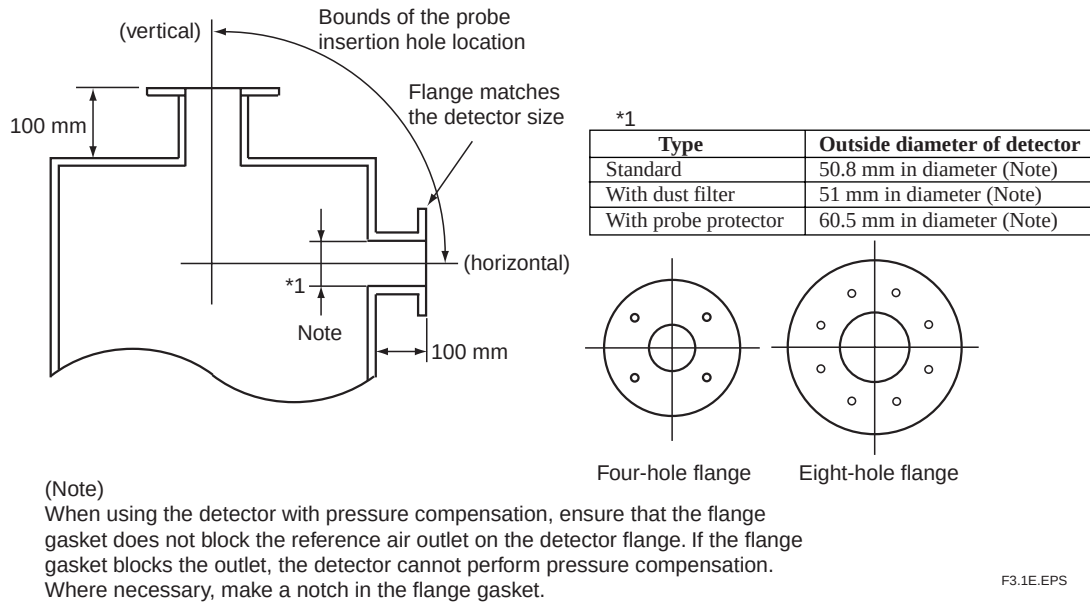

Figure 3.1 Example of forming probe insertion hole
- The outside dimension of detector may vary depending on its options. Use a pipe that is large enough for the detector. Refer to Figure 3.1 for the dimensions.
- (1) Do not mount the probe with the tip higher than the probe base.
- (2) If the probe length is 2.5 meters or more, the detector should be mounted vertically (no more than a 5° tilt).
- (3) The detector probe should be mounted at right angles to the measurement gas flow or the probe tip should point downstream.
Figure 3.1 illustrates an example of the probe insertion hole.